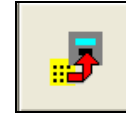

Figure 16.7.1D
1. Click on the **Send Program Data** icon located in the toolbar at the top of the screen (Figure 16.7.1D).